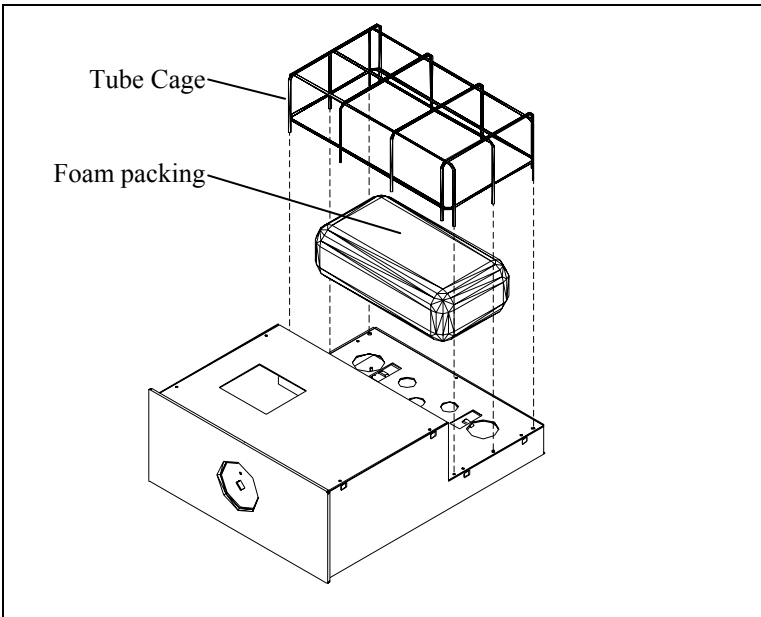

Figure 2
- 3) *Remove Foam Packing* – Carefully remove the foam from under the tube cage at rear of chassis. It is important that you retain the tube packing material in the event that the amplifier ever needs servicing. See Figure 2.